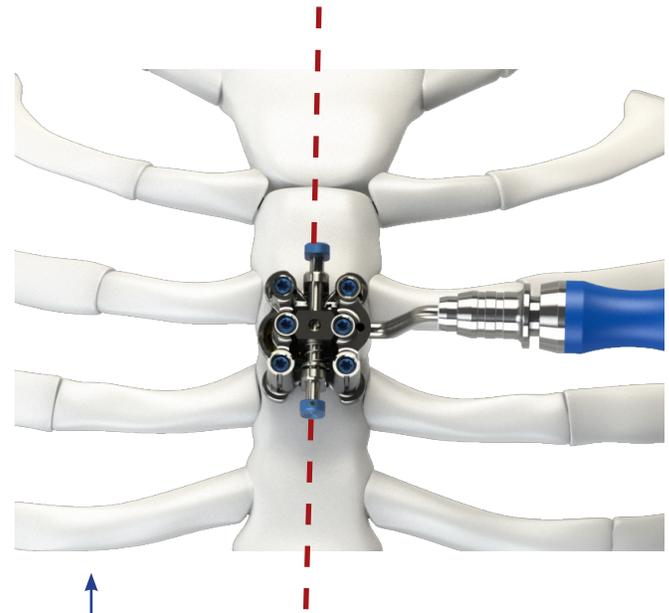

figure 5: Plate placement - Red dashed line indicates midline of sternum
- Orient the handle laterally and position the plates lightly on the midline of the center of the sternum (figure 5).